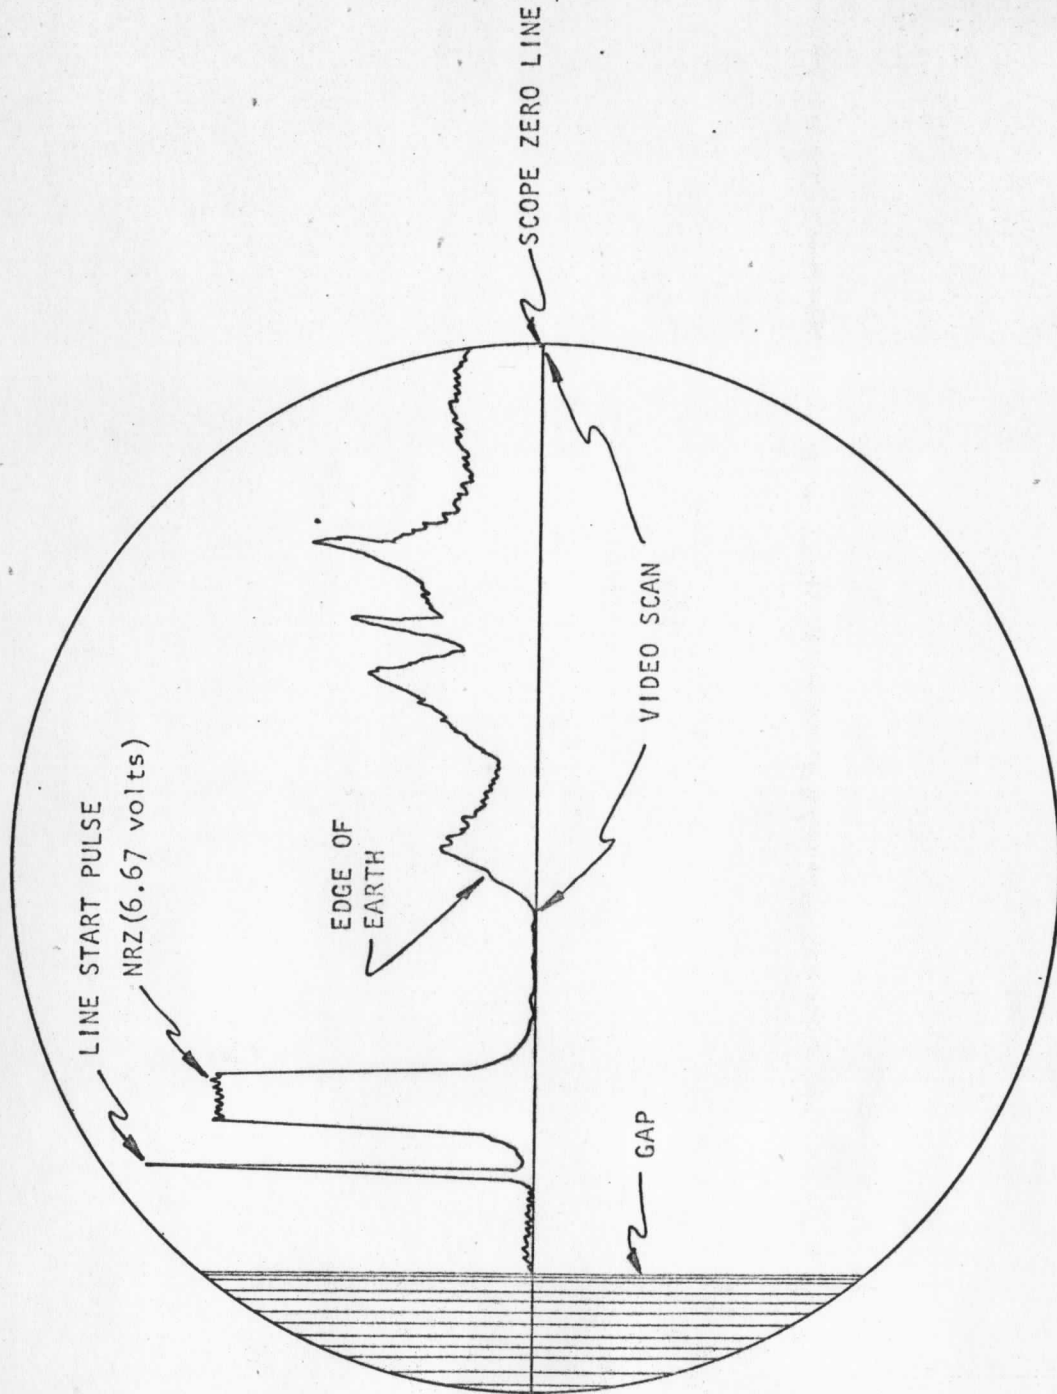

FIGURE 3
16. Press the forward button on the tape and allow it to run ahead until a signal is being played and adjust the oscilloscope until a good visual scan appears. See figure 3.
18. Find the appropriate spot on the analog tape by using the "footage meter", if the tape has been marked with a silver marker (values on the meter may be off slightly due to slippage). If not, start at the beginning of the tape and move forward thru each picture recording the footage at the start of each in the ATS catalog. Approximately 250 to 300 feet of tape is used between frame start of one picture and frame start of the next, including retrace. These can be seen by setting the FRAME START OVERRIDE switch on the transcriber unit to the OFF position and watching the frame start light as the analog tape is being played. Care must be taken to insure a frame start generated by noise is not mistaken for a real frame start. To aid in this, the user should watch the pattern on the oscilloscope screen. The "edge of the Earth", as shown in figure 3, moves rather rapidly across the screen during retrace and appears to be standing still during actual scan. By counting retrace periods the proper picture file may be found.